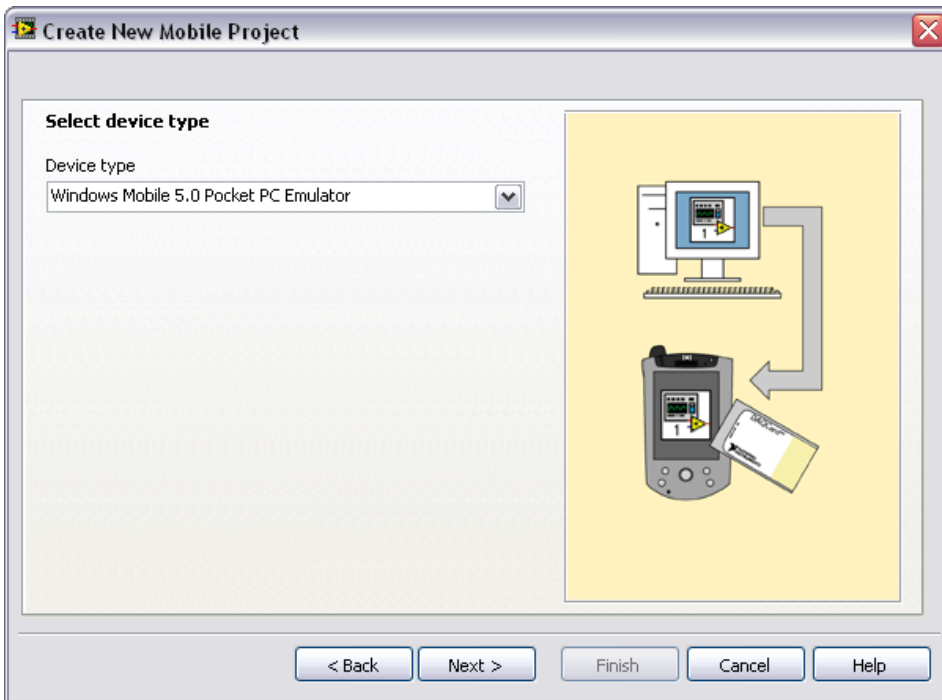

Figure 2. Selecting the Target
4. Select **Windows Mobile 5.0 Pocket PC Emulator** from the **Device type** pull-down menu as shown in Figure 2.